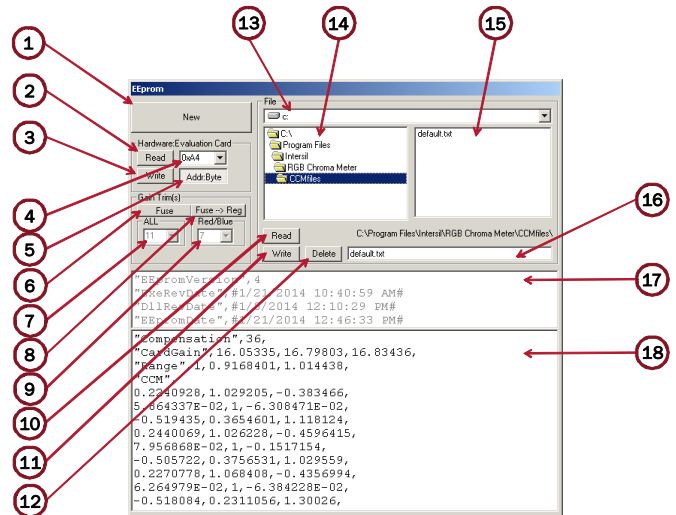

FIGURE 16. EEPROM LOAD CCM (CORRECTION COLOR MATRIX) FILE
2. If the cross-point does not display to match with the color temperature light bulb, the user needs to check x,y, and z values at left GUI panel. If x,y and z are all -1, Color Correction Matrix (CCM) did not load properly. The user should click on the "CCM" button at top left corner in the GUI Panel. Another pop-up window will display as shown in Figure 16.
5. User should copy the CCM, which is highlighted in Green color "EEPromVersion3" then paste into item 14 shown in Figure 16.
6. Click "Write" at item 3 then "Read" at Item 2 to configure the EEPROM on the evaluation board.
7. Click "Write" at item 7 then "Read" at item 6 to save CCM into file.